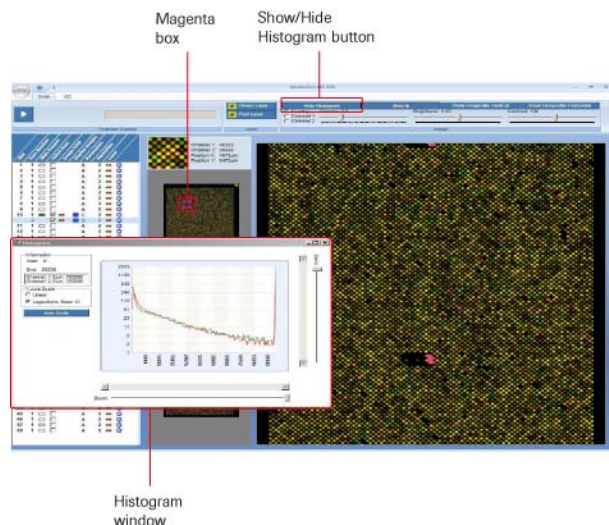

Figure 9: Example Window Showing Magenta Box in the Side View, Show/Hide Histogram Button, and Histogram Window
- b. Click **Show Histogram** in the Image Control (Figure 7) to view the histogram. Use the zoom feature (magenta box in the Slide View, Figure 9), to select where to view the histogram.
17. To view a small region of the array and to select where to view the histogram (Figure 9), reduce the size of the magenta box that outlines the slide image in the Slide View so that the magenta box surrounds the area of interest. The area of interest will appear in the Image View. Click **Show/Hide Histogram** to display the histogram.